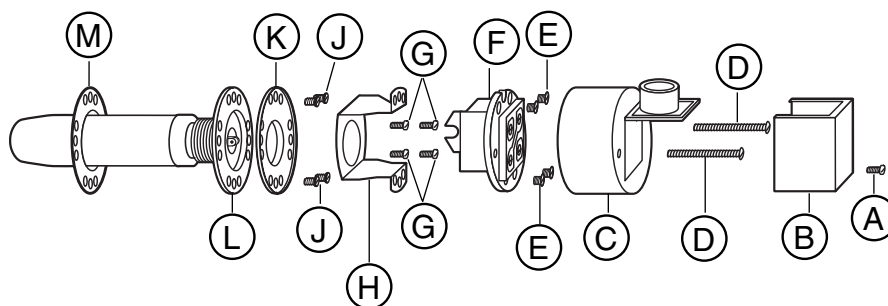

Figure 1
- a. **See figure 1.** Turn off all electrical power to the boiler. (There may be more than one power source to the boiler). Bleed off all pressure and let the boiler cool down to 80°F (27°C). Drain water level in boiler down below the control. Remove screw (A) and cover (B). Tag all wires for reconnection later. Disconnect wires from the terminals and remove conduit connection from housing (C). Remove two (2) screws (D) and switch housing (C). Remove four (4) screws (E) and remove switch (F). Remove four (4) screws (G) and bracket (H). Remove four (4) screws (J) and ring (K). The float and bellows assembly (L) can now be removed. Clean the gasket surface and mount the new float and bellows assembly. Remove screw (A) and cover (B). Tag all wires for reconnection later. Disconnect wires from the terminals and remove conduit connection from housing (C). Remove two (2) screws (D) and switch housing (C). Remove four (4) screws (E) and remove switch (F). Remove four (4) screws (G) and bracket (H). Remove four (4) screws (J) and ring (K). The float and bellows assembly (L) can now be removed. Clean the gasket surface and mount the new float and bellows assembly.
- b. Disassemble the new 6667 by removing screw (A) and cover (B). Remove the two (2) nuts on the back side of screws (D) and pull the assembly apart.
- a. **See figure 1.** Slip gasket (M) over float (L) and slide into body. Make sure that word **TOP** on the bellow base is at the top. Align the holes in gasket (M) with holes in the body, float and bellows assembly (L) and ring (K). Using four (4) screws (J) attach (L) and (K) to the body. Attach bracket (H) using four (4) screws (G) to ring (K) and body. Install switch (F) into bracket (H), making sure that the yoke on the switch fits around the roller in float and bellows assembly (L) and that the word TOP on the switch is at the top. Attach with four (4) screws (E). Attach housing (C) using two (2) screws (D). Install conduit connector and reconnect wires to their proper terminals. Install cover (B) using screw (A).